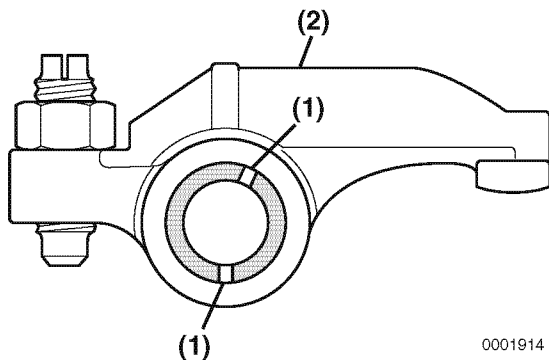

Figure 6-74
Ensure the lubrication holes (**Figure 6-74, (1)**) in the rocker arm shaft are oriented correctly with respect to the rocker arms (**Figure 6-74, (2)**).